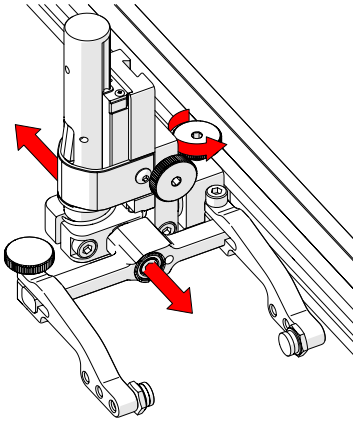

Fig. 126 - Adjust on frame bar
1. The probe holder adjustment knob allows the probe holder to be attached to a frame bar, as well as horizontal positioning on a frame bar (Fig. 126).